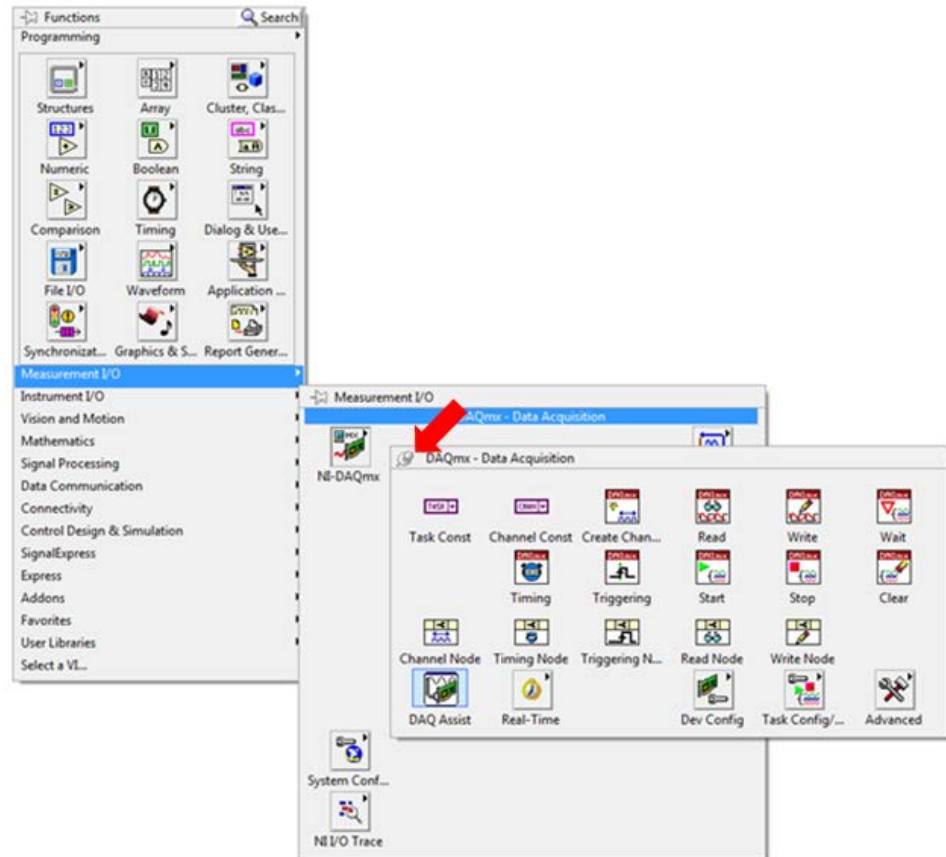

Figure 9. The DAQmx palette includes all the required VIs for communicating with your NI CompactDAQ chassis.
22. For this exercise, a large part of the coding will come from the DAQmx palette. To access this palette right click on any white space on the Block Diagram and navigate to **Measurement I/O » NI-DAQmx**, like in Figure 9.
23. Click on the pin to keep this palette visible (red arrow in Figure 9).